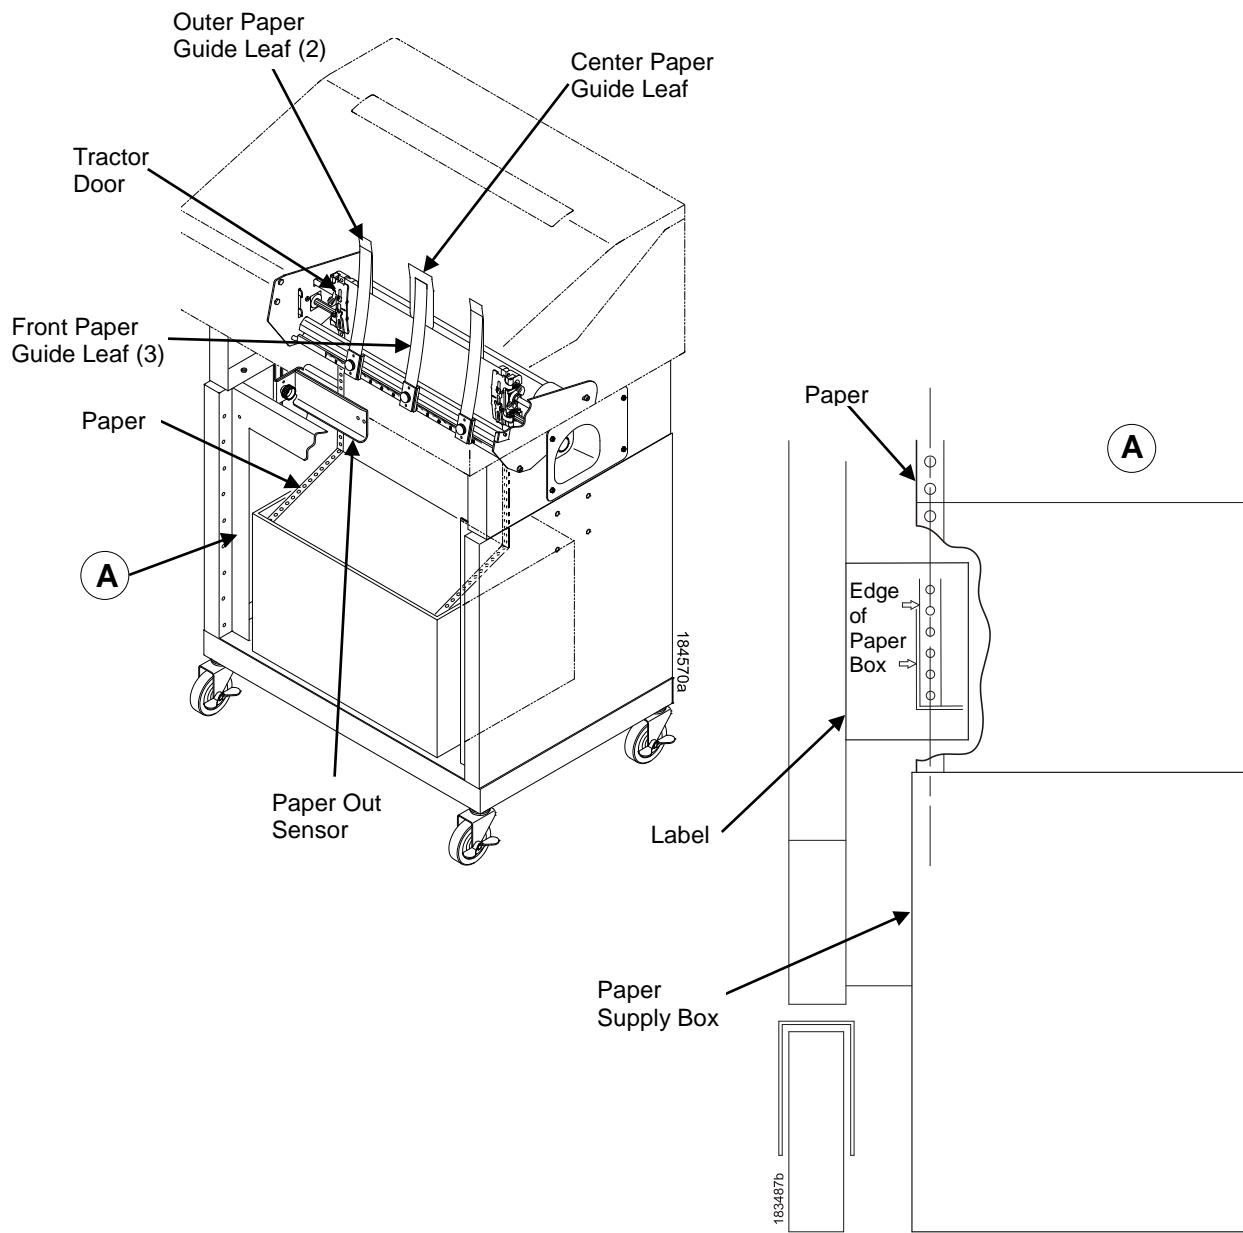
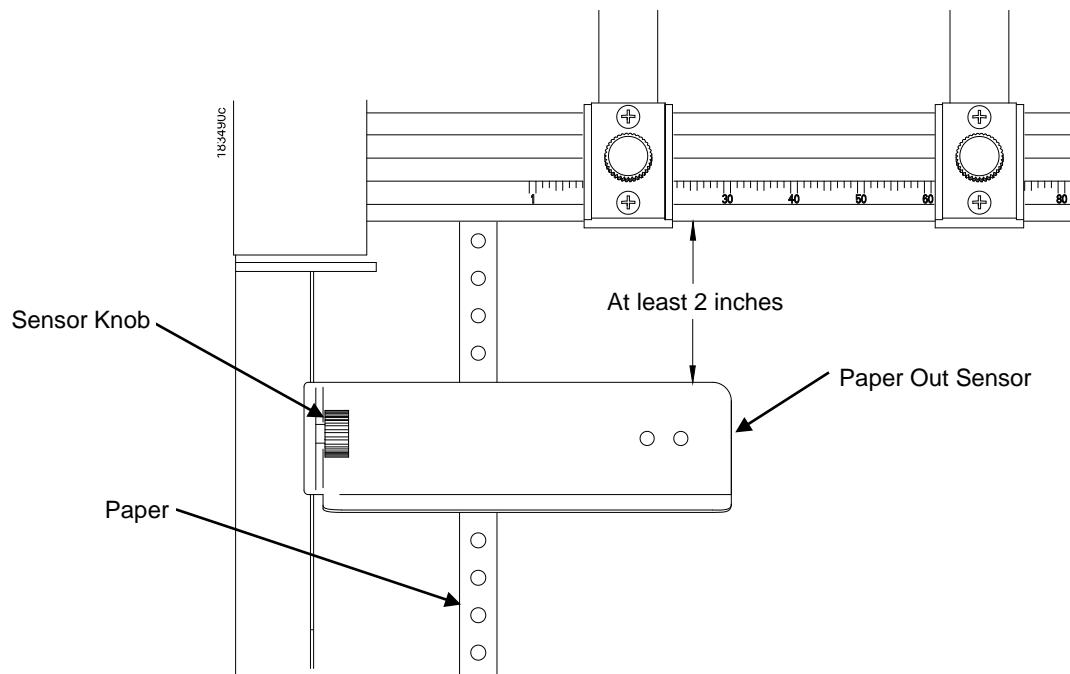

Figure 47 Loading Paper onto the Printer
Figure 50 The Paper Out Sensor
1. Align the paper supply box with the label on the left side of the floor. (See Figure 47 on page 298.)
The paper out sensor indicates when the printer runs out of paper. (The sensor does not work with black backed forms.) Unlike the standard pedestal printer, the ZT printer requires you to load the paper through the paper out sensor slot (Figure 47 and Figure 50). Correct positioning of the paper out sensor ensures that the last form the printer prints will be properly presented to the tear bar. To position the paper out sensor, do the following: